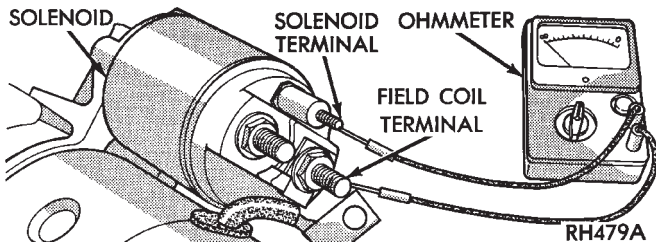

Fig. 7 Continuity Test Between Solenoid Terminal and Field Coil Terminal
(1) Disconnect field coil wire from field coil terminal.
(2) Check for continuity between solenoid terminal and field coil terminal with a continuity tester. There should be continuity (Fig. 7).